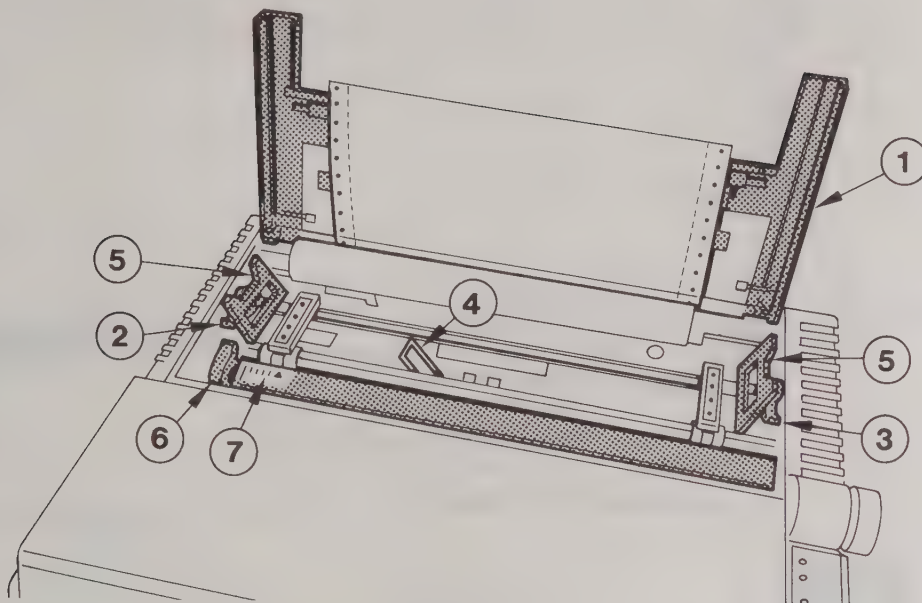

Fig. 5/5 Fanfold paper insertion
- Raise rear cover lid (1, Fig. 5/5).
- Open the two tractor flaps (5).